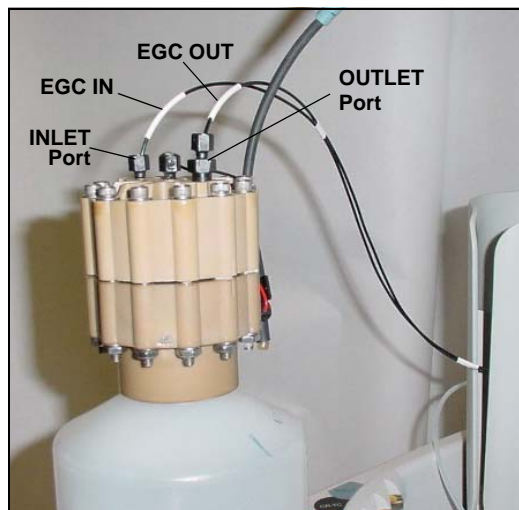

Figure 5-49. Disconnect the Dionex EluGen Cartridge Inlet and Outlet Port Lines
8. Disconnect the **EGC IN** and **EGC OUT** lines from the **INLET** and **OUTLET** fittings on the Dionex EluGen cartridge (see Figure 5-49).